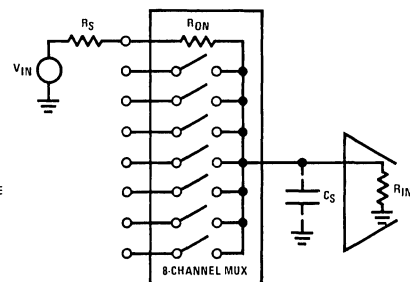

FIGURE 6. 8-Channel MUX
1. Multiplexer's Influence on System Accuracy (*Figure 6*).
- a. The error, (E), caused by the finite "ON" resistance, R_{ON} , of the multiplexing switches is given by:
C_S (*Figure 6*): MUX output capacitance + following stage input capacitance + any stray capacitance at this node.